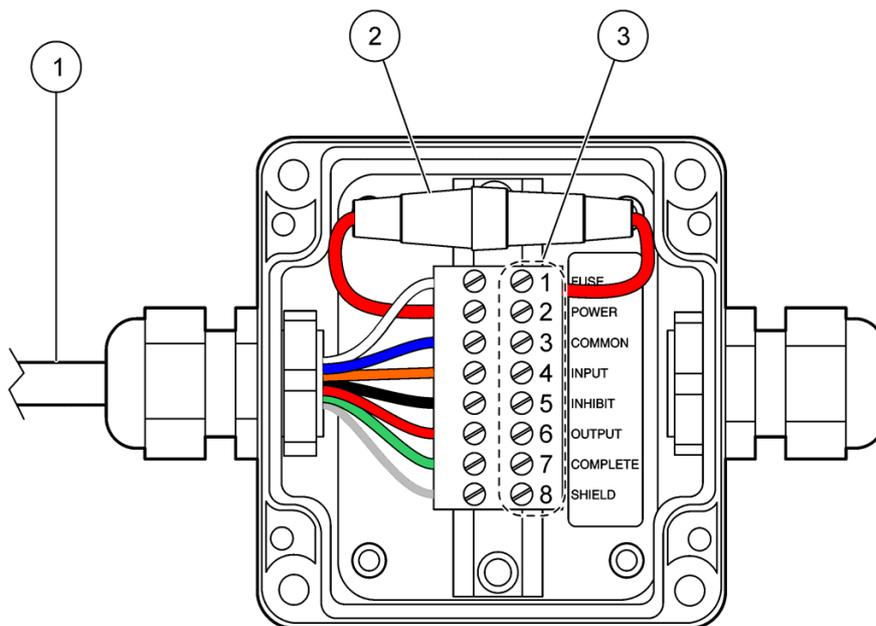
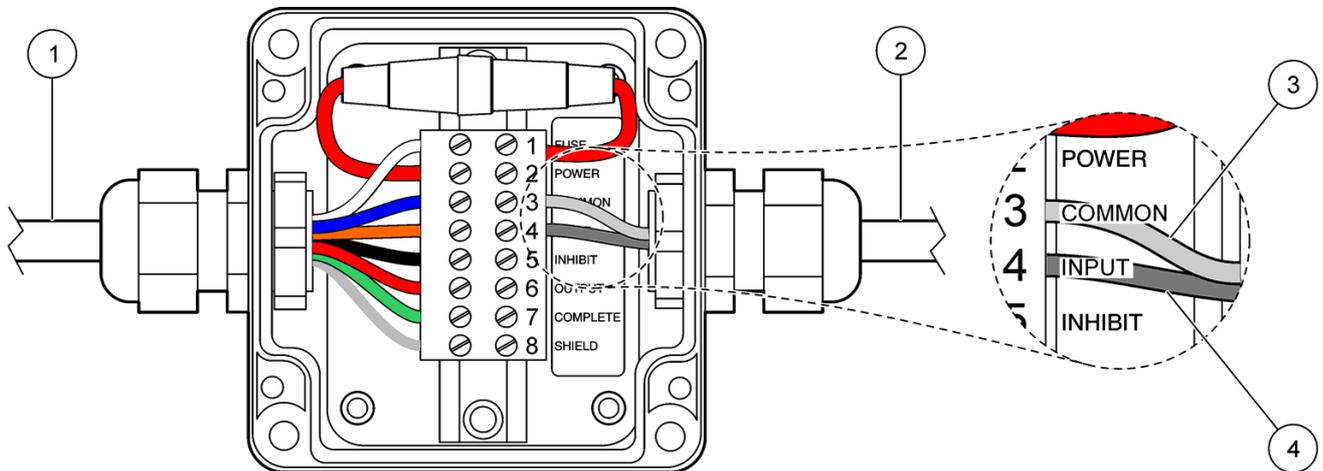

Figure 3 Universal junction box interior
Figure 4 Terminal wiring for 950 flow meter
5. Use Figure 3 and Table 1 to find which terminals to use. For connection to a Sigma 950 flow meter refer to Figure 4.